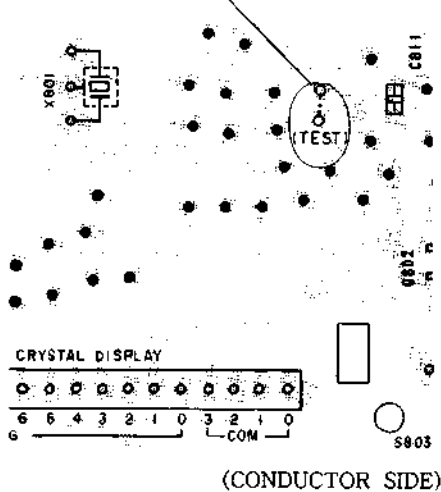

Fig.4 TEST terminal position
- (4) Confirm the clearance between the teeth of rack gear and the jig as shown in figure 4. Remove the rack assy side of jig first when removing the jig.